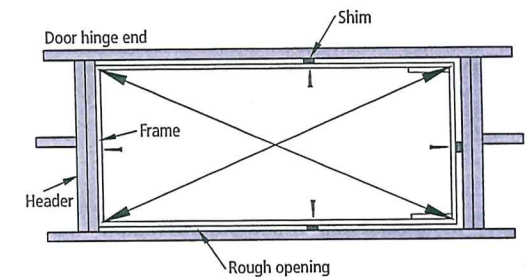

FIGURE 4
E. Carefully open attic ladder door but do not unfold the climbing section until indicated in step 3. Place the frame on the door hinge side of the ladder up against the header and center side to side in the rough opening. Temporarily secure to header with 16d nail. Make sure frame is flush with ceiling before nailing (figure 4, next page).
F. Center and square the opposite side of attic ladder frame using shims. Ensure ladder frame is square by measuring diagonals of the frame within ¼". Secure other sides of ladder frame to ceiling joists with remaining three 16d nails (figure 4).